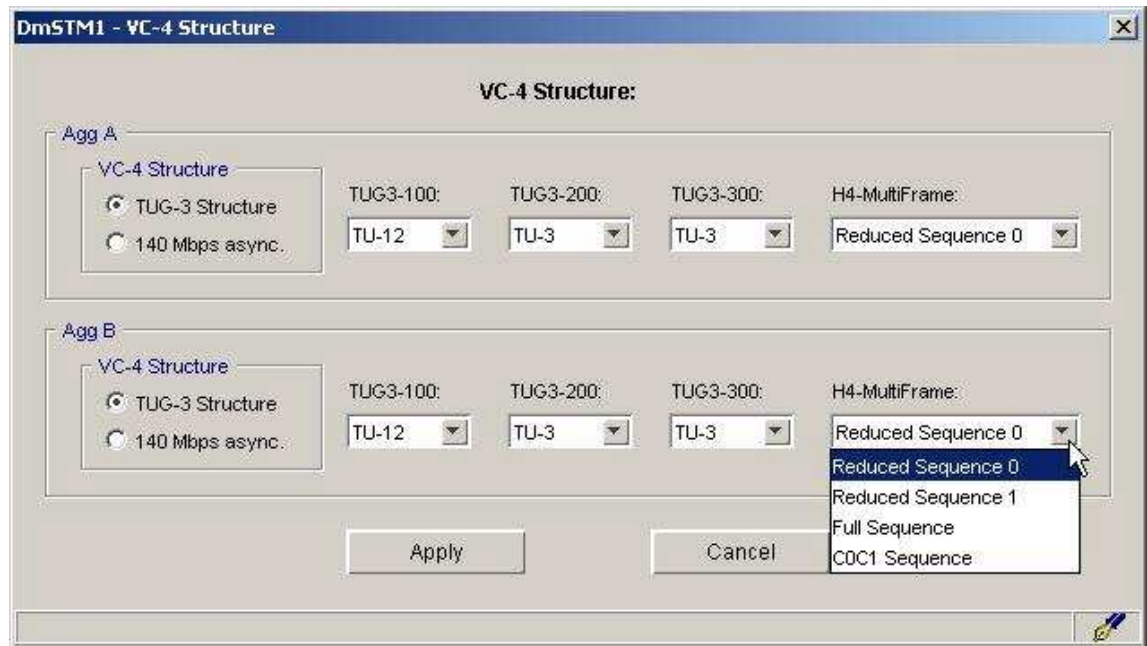

Figure 21 – H4_multiframe configuration screen
The indicating byte of multiframe H4 is configured through the VC-4 Structure screen (see item 3.10.1). It defines the type of used sequence as indicating of multiframe in the H4 byte of the POH. (see Figure 21)